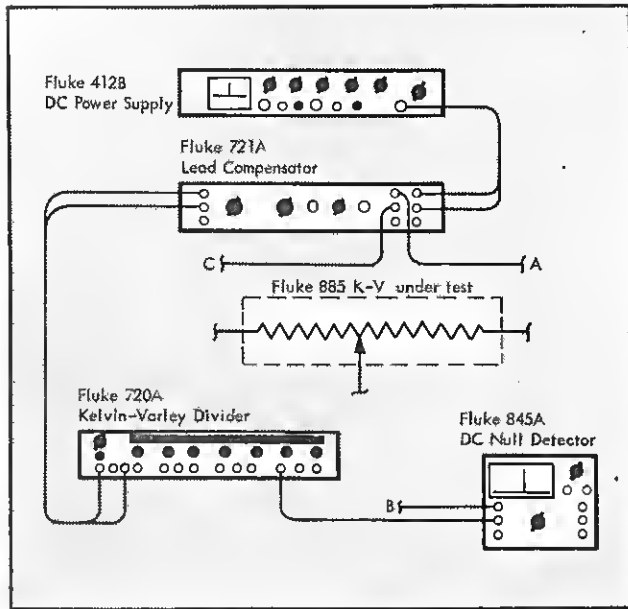

Figure 4-8. KELVIN-VARLEY ADJUSTMENT SETUP
- e. Connect equipment as shown in Figure 4-8.
- h. Connect points A and C of Figure 4-8 to test points 14 and 16, respectively, of the Kelvin-Varley circuit board.
- (1) Set 845A to 30 microvolt range.
- (2) Set 720A readout dials to 0000000.
- (3) Connect point B of Figure 4-8 to test point that point C is connected to.
- (4) Set 721A mode switch to $R_s > R_x$.
- (5) Set 721A voltage switch to off.
- (6) Zero 845A Null Detector.
- (7) Set 721A voltage switch to on.
- (8) Adjust 721A low balance controls for a null on the 845A. It may be necessary to temporarily reduce the sensitivity of the 845A.
- (9) Set 720A readout dials to 10000000.
- (10) Connect point B of Figure 4-8 to test point that point A is connected to.
- (11) Set 721A voltage switch to off.
- (12) Zero 845A Null Detector.
- (13) Set 721A voltage switch to on.
- (14) Adjust 721A high balance controls to null 845A. It may be necessary to temporarily reduce the sensitivity of the 845A.
- k. Connect point B of Figure 4-8 to test point 15.
- (1) Set 721A voltage switch to off.